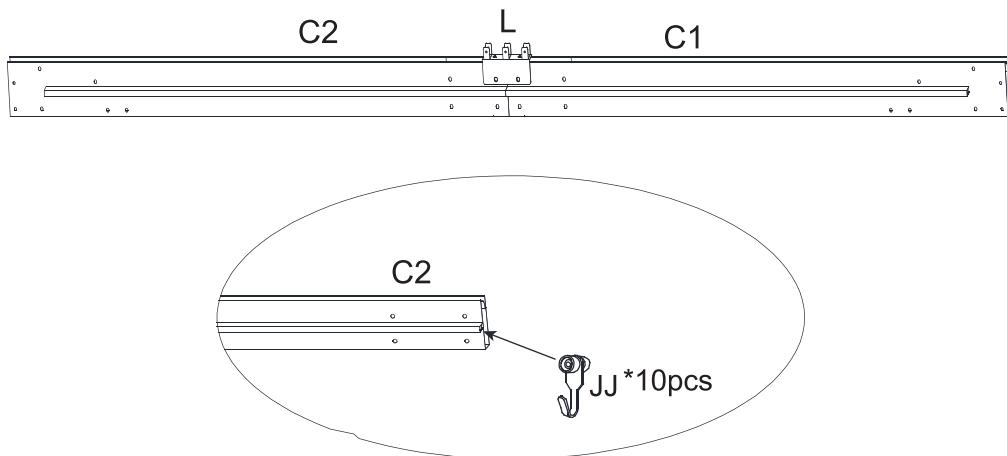

Figure 2.1
- 2.1. Slide the Hang Wheels (JJ) into the Short Right Lintel (C2). See. Figure 2.1.